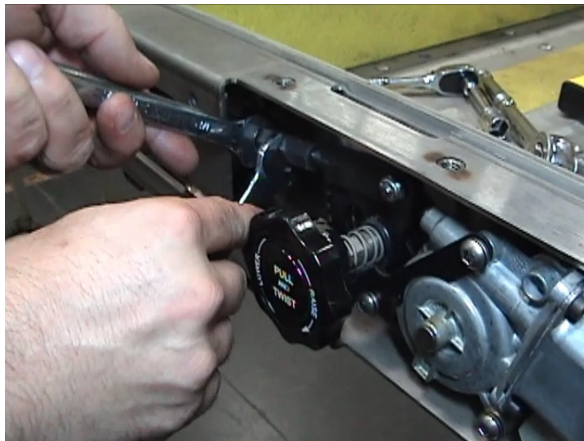

FIGURE 4-11: LOOSEN JAM-NUT
- 6) Refer to Figure 4-11. Loosen jam-nut and adjust the link length by turning the center section.